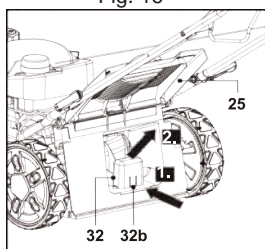

Fig. 17
2. Squeeze the locking latch (32b) and release it from the rear discharge chute slot (29a), then remove the mulching insert (32) (Fig. 17).